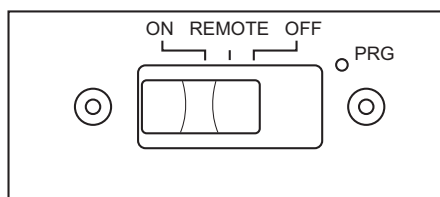

Figure 42 - Remote Selector Switch in ON Position
10. Wait one minute and switch selector switch to the ON position to light burners (see **Figure 42**). When using in the ON position (without remote) burners will light on high. There is no adjustment to the flames without using remote.